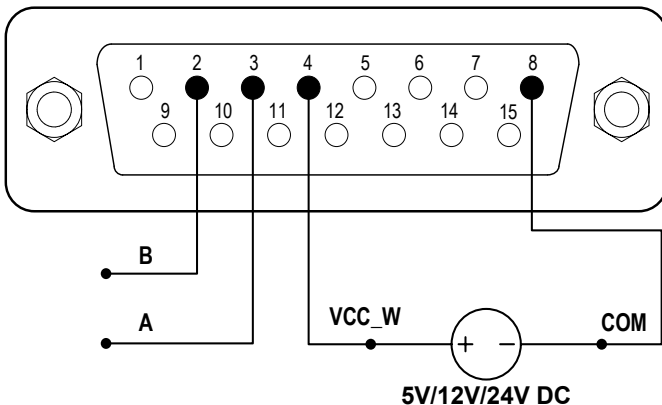
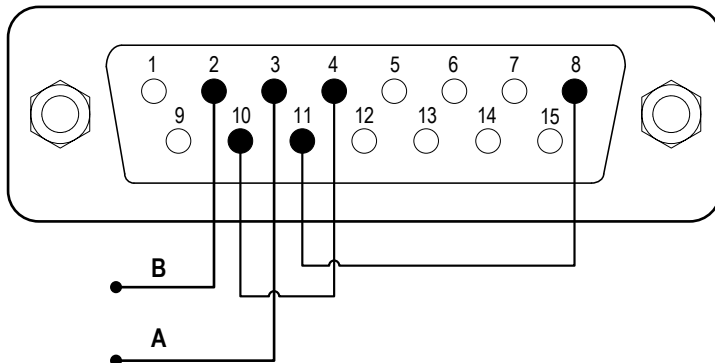

Figure 25. RS485 MODBUS Wiring with External Power Source
Figure 26. RS485 MODBUS Wiring with Internal 12V Power Source
- 1) When the power is off, wire the DB15 connector as shown in Figure 25 or Figure 26, then connect it to the DB15 port on the rear of the pump. An external DC power source is recommended to avoid electrical interference.